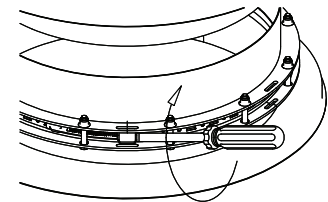

Figure 54 - Adjustable length, INSTALLATION STEP C
- c. Tighten the compression band so that the graphite packing is firmly registered against the inner flue. See **Figure 54**.